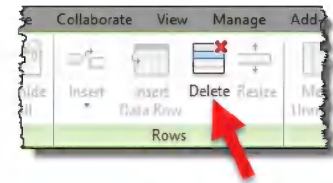

FIGURE 12-2.7
11. Now click the **Delete** button from the *Ribbon* (Figure 12-2.7).